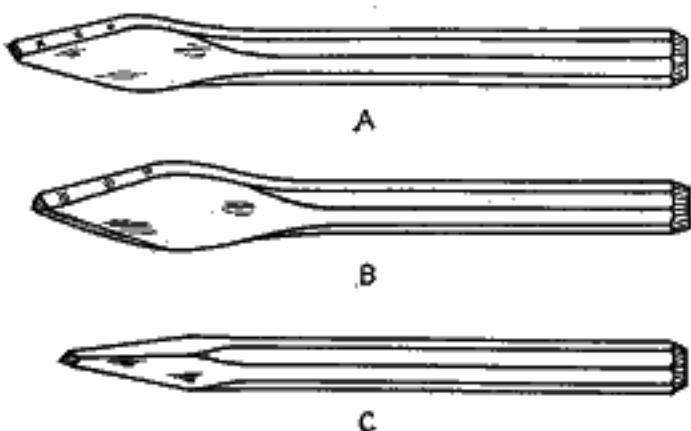

FIG. 170.—Types of special grooving chisels that may be made in the farm shop.
**191. Cutting Slots and Grooves.**—Other special chisels, such as those illustrated in Fig. 170, will occasionally be found useful in cutting grooves